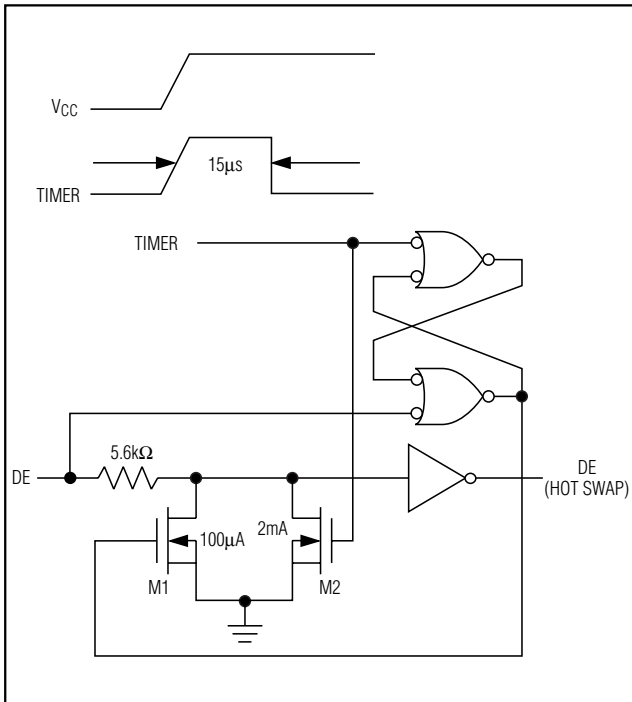

Figure 9. Simplified Structure of the Driver Enable Pin (DE)
At the driver enable input (DE), there are two NMOS devices, M1 and M2 (Figure 9). When VCC ramps from 0, an internal $15\mu\text{s}$ timer turns on M2 and sets the SR latch, which also turns on M1. Transistors M2, a 2mA current sink, and M1, a $100\mu\text{A}$ current sink, pull DE to GND through a $5.6\text{k}\Omega$ resistor. M2 pulls DE to the disabled state against an external parasitic capacitance up to 100pF that may drive DE high. After $15\mu\text{s}$, the timer deactivates M2 while M1 remains on, holding DE low against three-state leakage currents that may drive DE high. M1 remains on until an external current source overcomes the required input current. At this time, the SR latch resets M1 and turns off. When M1 turns off, DE reverts to a standard, high-impedance CMOS input. Whenever VCC drops below 1V , the input is reset.